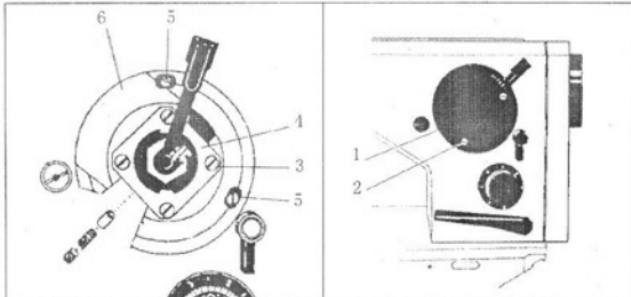

Fig.19
2) The needle punches transversely into the center of the needle plate slot position adjustment (Fig.19)
### 28. The needle base point offset adjustment(Fig.19)